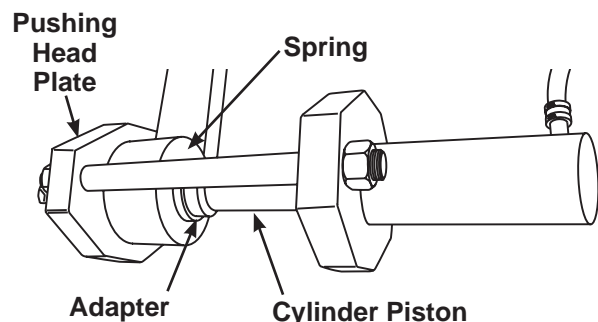

Figure 2
2. Position the pushing head plate of the tool assembly on the bushing collar side of the spring. See Figure 2. Place adapter #561037 on the opposite (or non-collar) end of the bushing.